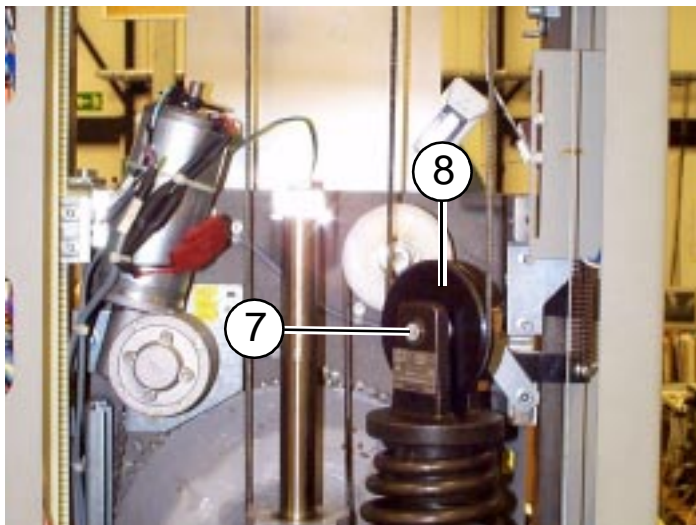

Fig. 5
11. Remove the clamp ring (see Fig. 5, pos.7).
12. Remove the pin (see Fig. 5, pos.7).
13. Remove the black cord wheel. The rope is now free (see Fig. 5, pos.8).